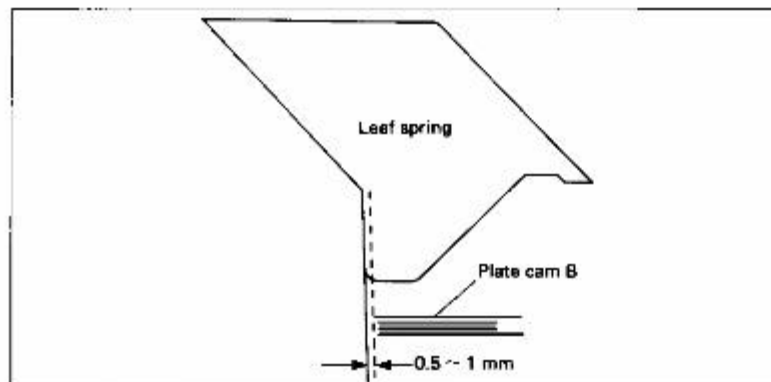

Fig. 5-6
- 1-2. By referring to Fig. 5-6, place the leaf spring at a distance of 1.0-1.2 mm inward from the cross section of the plate cam B and fasten with clamping screws.